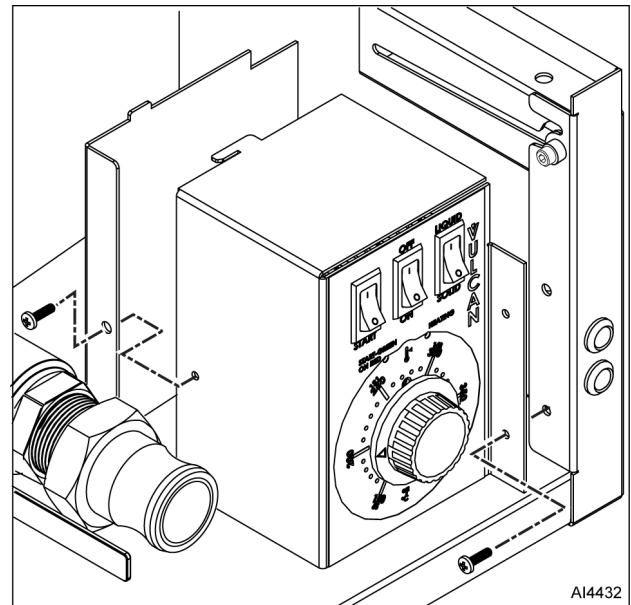

Fig. 6
4. Remove two screws (Fig. 6).